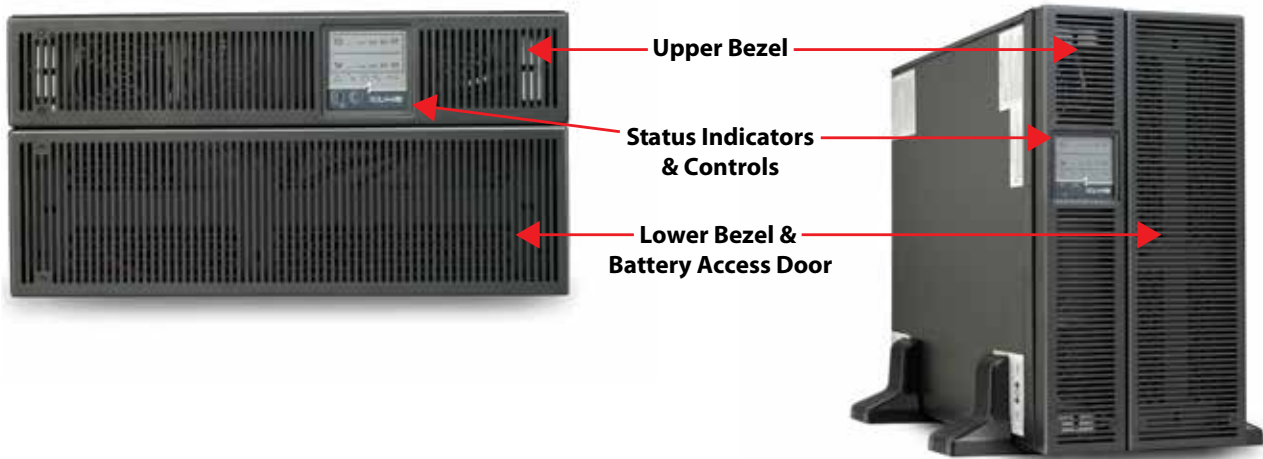

Figure 2: Front view—rack-mount and tower configurations
5. Place the UPS and any battery cabinets on the support bases. Each UPS requires two support assemblies as shown in Figure 2.